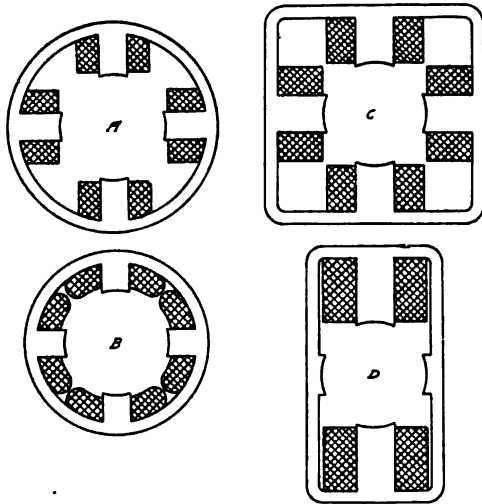
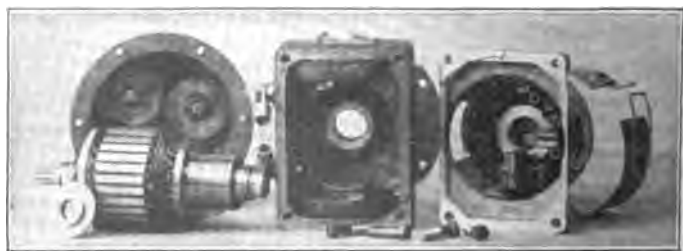

Fig. 154. Cross-Sections Typical Electric Starting Motor
Fig. 156. Westinghouse Starting Motor
**Standard Designs.** Briefly stated, the electrical requirements demand a concentrated and correctly proportioned mass of iron and copper in the minimum space. The cross-sections, Fig. 154, show how these requirements have been met in various instances. As the motor is only required to operate for very short periods, both the conductors and insulation can be kept down in size as compared with a motor designed to run constantly under heavy load.
shortest magnetic circuit. Consequently, shallow windings with long flat pole pieces are more efficient than the reverse of this form, particularly as air space in the magnetic field lessens its intensity and calls for a heavier winding to magnetize the extra weight of metal to the same degree. Hence, the type represented by *B*, Fig. 154, is the most efficient, in theory at least, of the four forms illustrated.
exemplifies type *B* referred to above, except that it is bipolar. Windings and pole pieces of the same type are shown in the Westinghouse starting motor, Fig. 156, this being patterned after form *D* in Fig. 154, though it is of somewhat broader section. The auxiliary